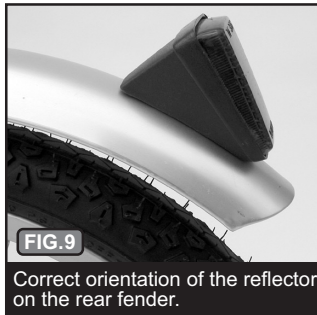

FIG. 9
**A)** Fender Reflector Installation - The fender reflector attaches to the rear portion of the fender. The reflector has a threaded stud built into it. Attach the reflector to the fender by inserting the stud into the upper hole and the plastic "alignment pin" into the lower hole of the fender as shown in Fig. 9. Next, place the washer over the portion of the stud extending through the underside of the fender. Thread the nut on and tighten with an 8mm wrench.